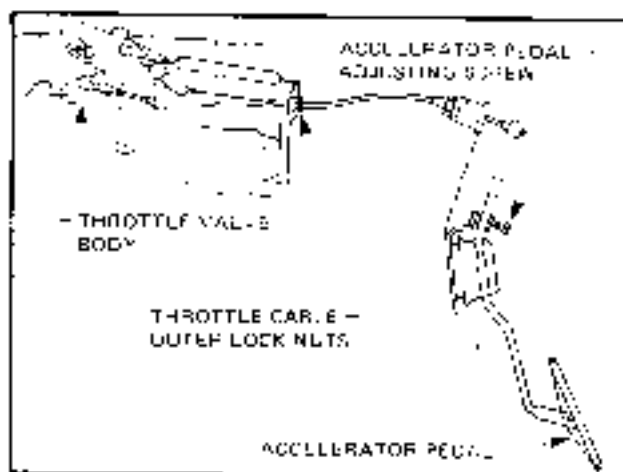

Figure 6C-58
4. Adjust screw on pedal lever so that the pedal has no free play, but the cable is taut and idling speed is not affected (Fig. 6C-59).